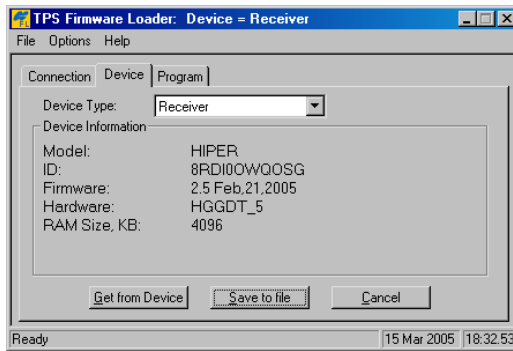

Figure 5-23. Get Device Type
1. In FLoader, click the **Device** tab and set the *Device Type* as “Receiver”. Then click **Get from Device** for device information (Figure 5-23).